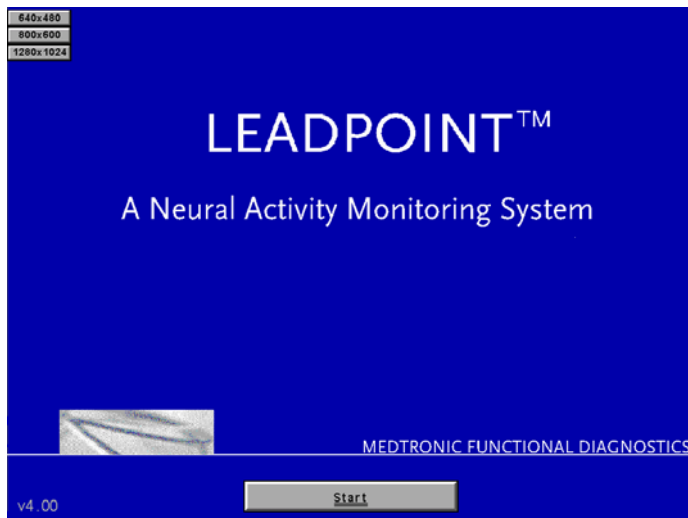

Figure 65 The Start Page of Leadpoint™
- Double-click the Leadpoint™ icon on your Windows desktop. The program will perform a swift self test before displaying the Start Page, see Figure 65 below: